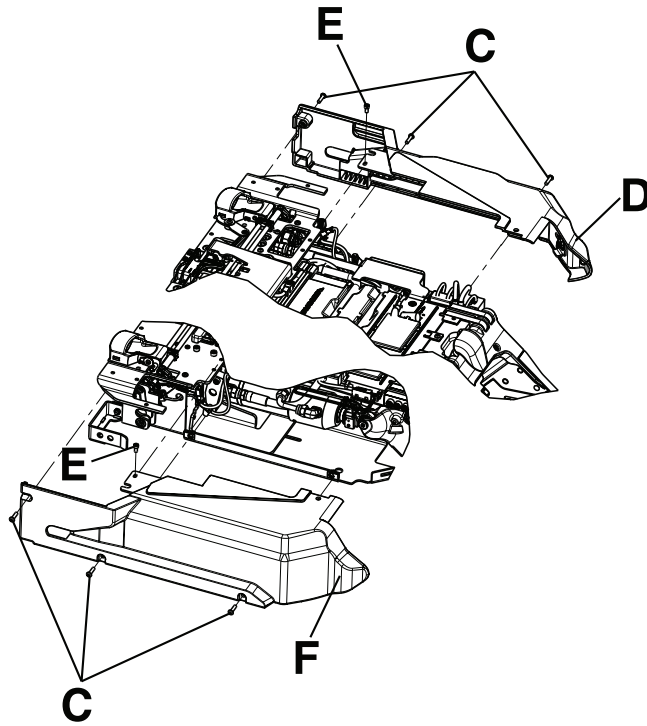

Figure 14 – Trolley side covers
2. Using a T25 Torx driver, remove the three screws (C) left side cover (D) (Figure 14). Save the screws.
3. Using a 5/32" hex wrench, remove one hex head screw (E) from the top of the left side cover (D) (Figure 14). Save the screw.
5. Repeat steps 2-4 to remove the side cover, right (F) (Figure 14).